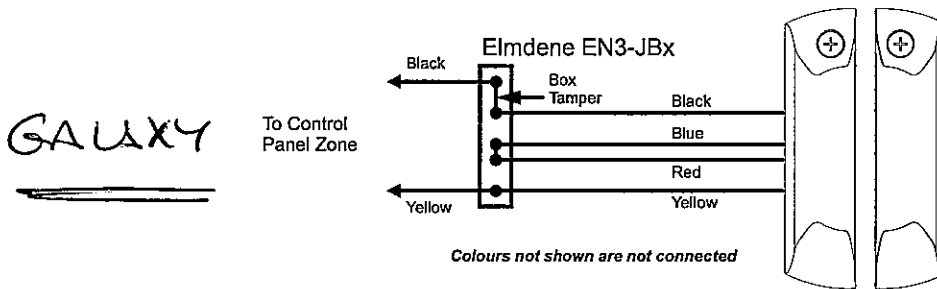

Figure 4
- Fully supervised loop - Double leaf doors - Series mode connection Figure 4